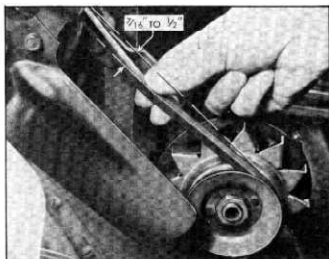

Fig. 119—Fan Belt Adjustment
4. Inspect fan belt. Replace if badly worn. Adjust belt to proper tension. See Fan Belt adjustment in this section (fig. 119).
NOTE: With correct adjustment, a light pressure on the belt at a point midway between pulleys should cause $\frac{3}{16}$ " deflection on 1949-52 models with the wide belt and a $\frac{7}{16}$ "- $\frac{1}{2}$ " deflection of the narrow belt used on 1953 models. (fig. 119).